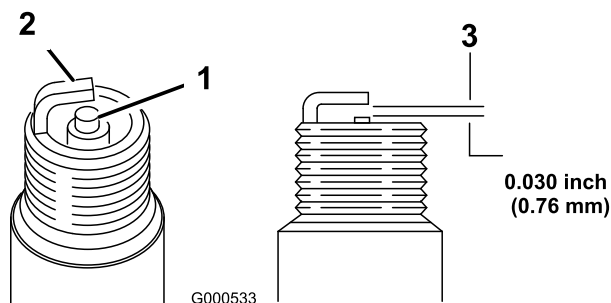

Figure 44
2. Check the gap between the center and side electrodes (Figure 44). Bend the side electrode (Figure 44) if the gap is not correct.
1. Look at the center of the spark plug(s) (Figure 44). If you see light brown or gray on the insulator, the engine is operating properly. A black coating on the insulator usually means the air cleaner is dirty.